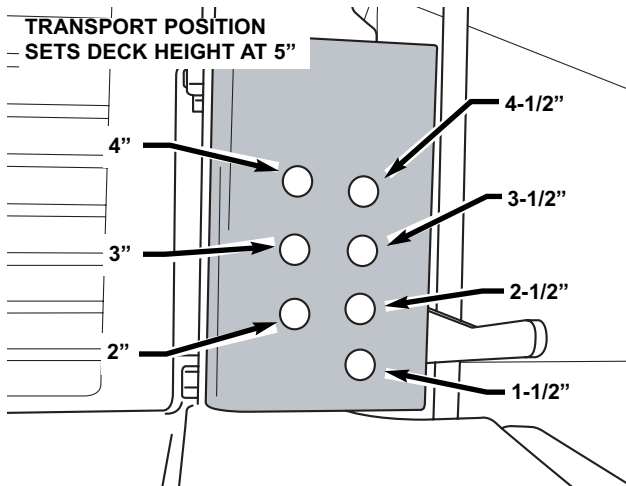

FIGURE 3.10
2. Insert stop pin to desired cutting height. See Figure 3.10.